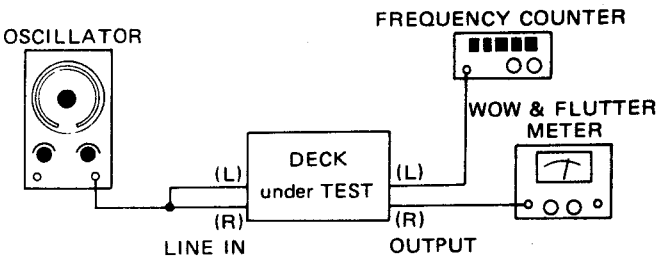

Fig. 2-16
1. Connect the test equipment to the deck as shown in Fig. 2-16.